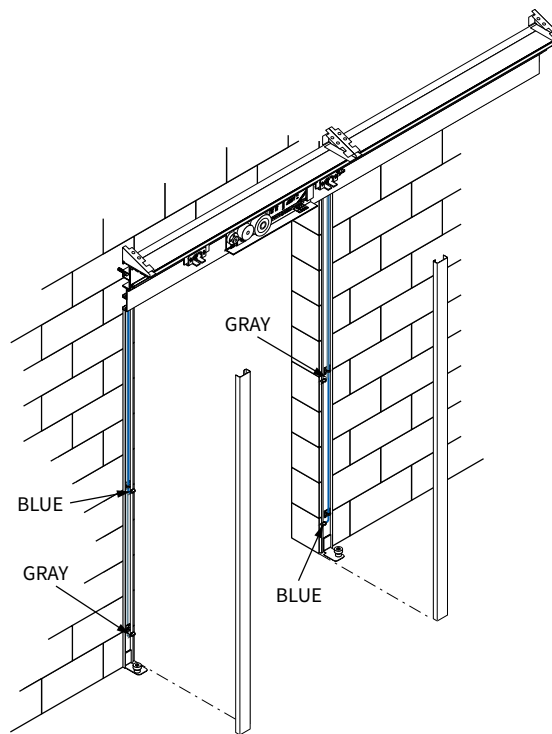

Figure 18: Connecting to Photoeyes
4. Position the photoeyes in the face frames in pairs of emitter and receiver. The wires are color-coded black or gray. Emitters are gray and receivers are black. Match wire colors and install the photoeyes as shown in Figure 18, (Page 18), and Figure 24 (Page 22).
7. Make sure the photoeye cables come out of holes provided in the bottom of the header and do not get cut or pinched during positioning. Mount photoeye sensors as shown in Figure 18. Pay attention to colors of photoeye wires (Figure 18), and Figure 24 (Page 22).